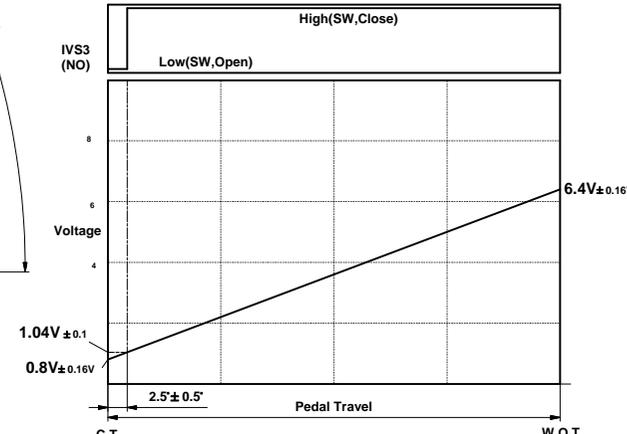

Fig. 3 Spring Force
- (Initial Load : 1kgf(min) Full Throttle Load : 3kgf(max)) : See Fig3.